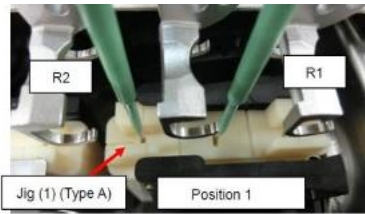

Figure 3.5 Outer R. pack (Reagent) adjustment position
- Move both RS Probes down to **Jig Type A**. (Figure 3.5)